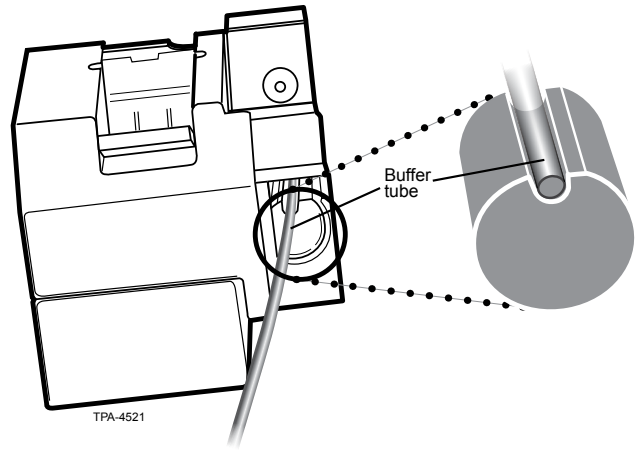

Figure 22
- b. Place the required buffer tube in the holder's slot, lining up the buffer tube's starting point mark with the blade contact point (Figure 22).